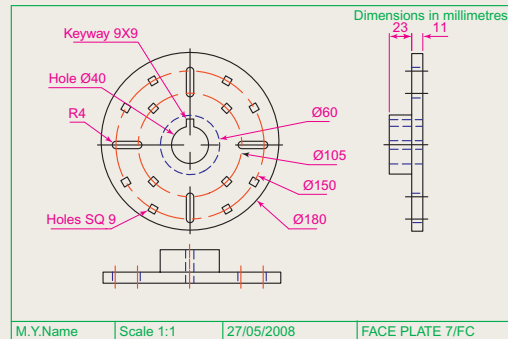
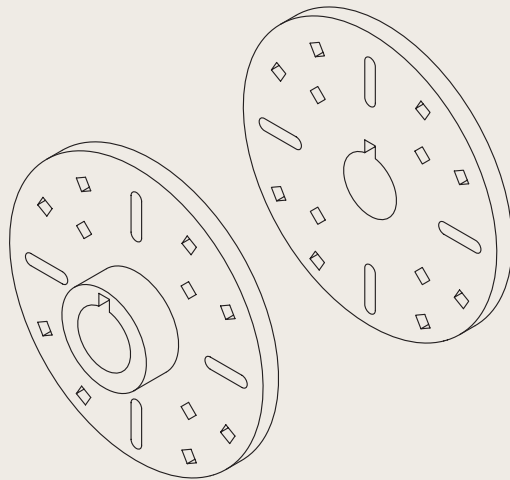

Fig. 13.18 Exercise 5 – dimensions
Fig. 13.19 Exercise 5
5. Working in a **Three: Left** viewport setting, construct a 3D model of the faceplate to the dimensions given in Fig. 13.18. With the **Mirror** tool, mirror the model to obtain an opposite-facing model. In the **Isometric** viewport call the **Hide** tool (Fig. 13.19).